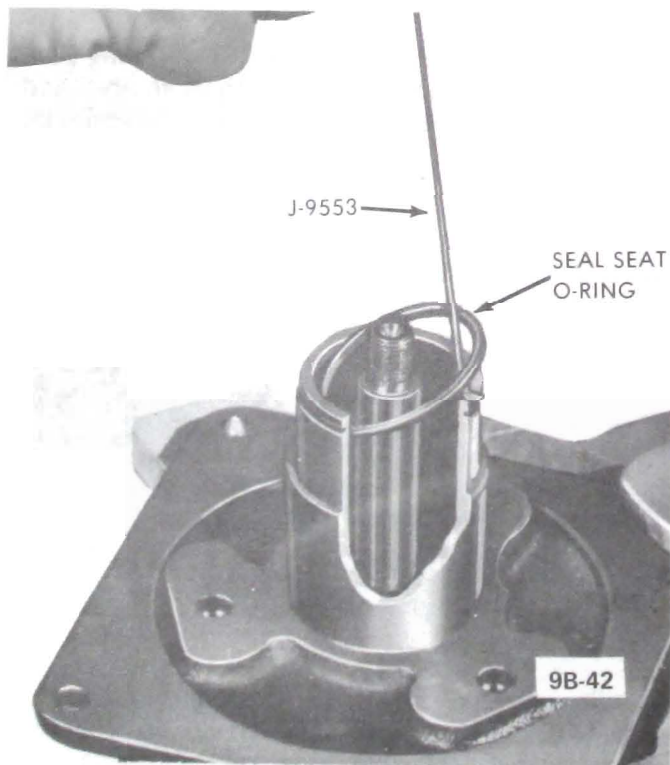

Figure 9B-48 Removing Seal Seat O Ring
9. Remove the seal seat "O" ring, using Tool J-9553 (see Figure 9B-48).